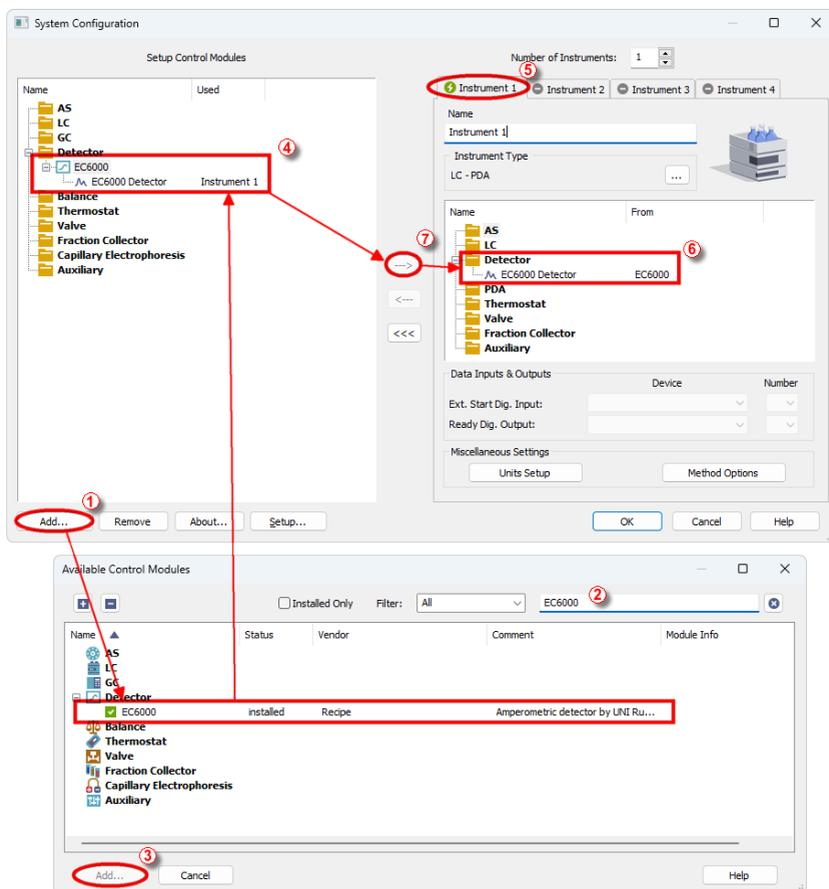

Fig. 3: How to Add Recipe EC6000 module
- Press the **Add** button (1 on Fig. 3 on pg. 4.) to invoke the *Available Control Modules* dialog.
- You can specify the search filter (2 on Fig. 3 on pg. 4.) to simplify the finding of the driver.
- Select the correct item and press the **Add** (3 on Fig. 3 on pg. 4.) button. Each device with already created UNI profile should have its own item